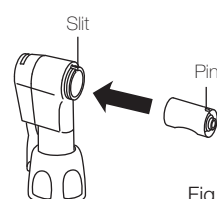

Fig.7
- 4) Insert the new cartridge, with its pin aligned in the slot of the head. (Fig. 7)